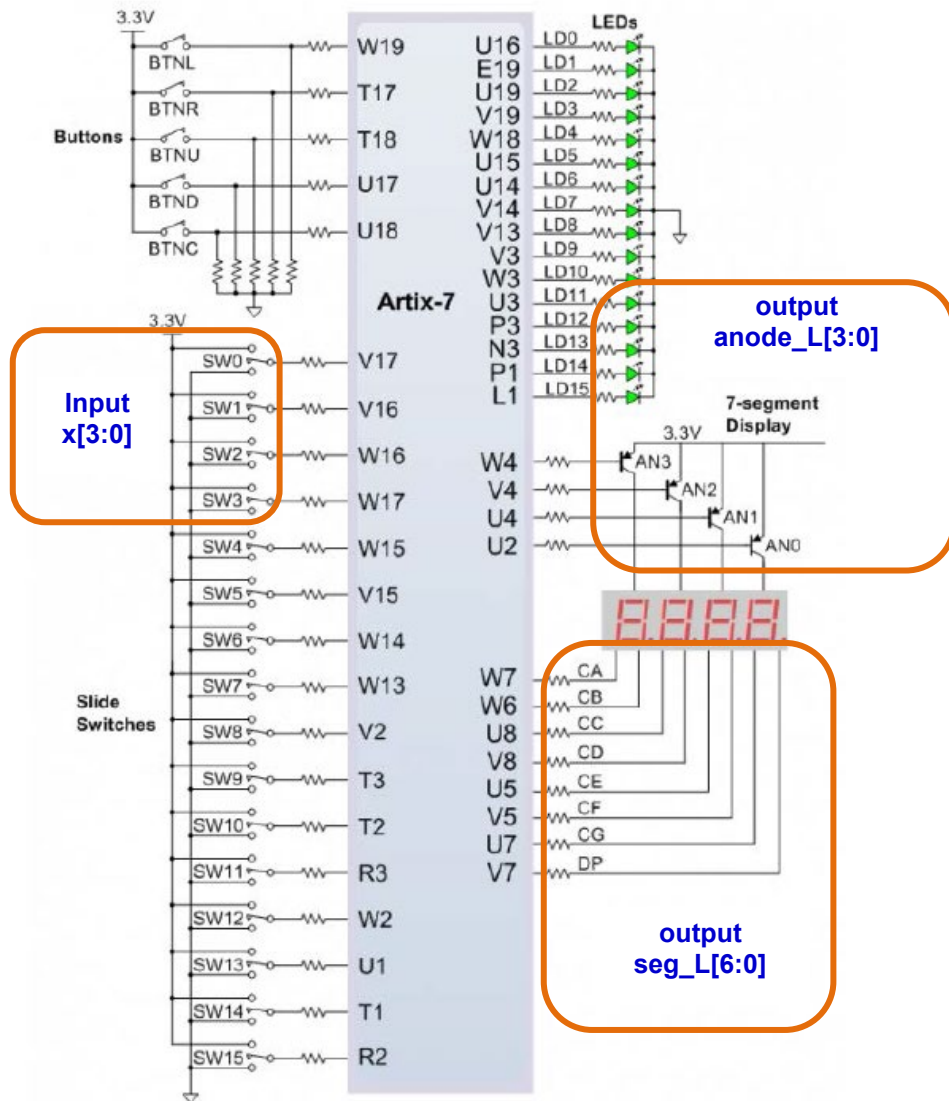
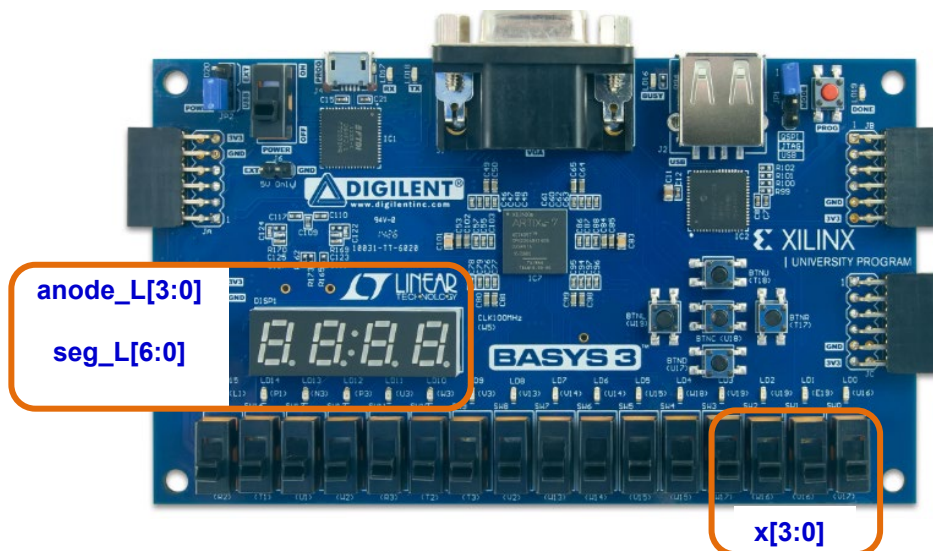

Figure 4: Basys3 basic input/output (I/O) schematic (source: Ref 8.2)
Figure 5: Basys3 board physical layout (source: Ref 8.2)
- 5.4.3 Figure 4 shows the I/O schematic diagram and Figure 5 shows the physical layout of the Basys3 board. The I/O mappings specified by *vsevenseg.xdc* are indicated in these figures.
- 5.5.1 In section 5.4, the two digits that are lighted up always display the same value. This is because the digits share the same value of CA-CG (mapped to seg\_L in Figure 4). However, Figure 4 also shows that the two digits can be turned on or off separately by AN1 and AN0.